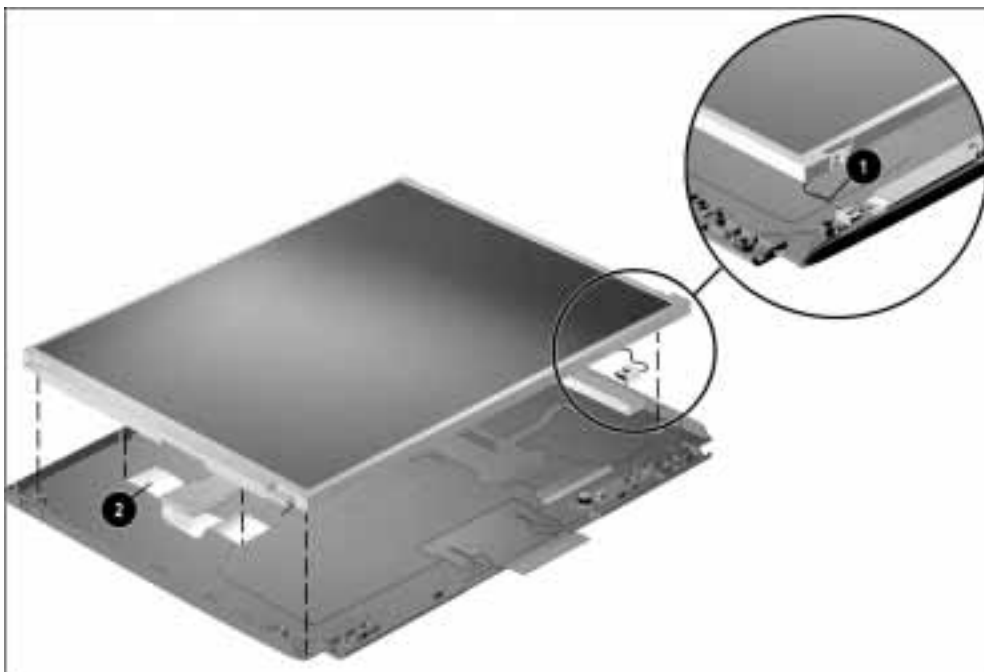

Figure 5-37. *Disconnecting the Backlight Cable and Removing the Display Cable Tape*
5. Disconnect the backlight cable from the inverter ❶ (Figure 5-37).
7. Remove the tape that secures the display cable to the back of the panel ❷.